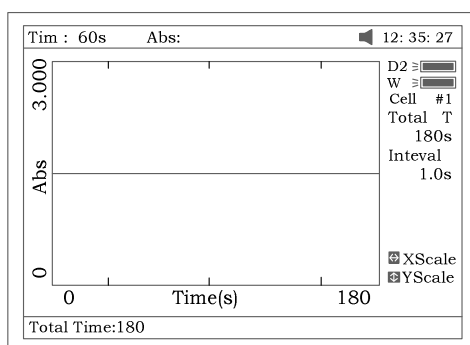

Fig 54
1. Press **【F1】** to set “Total Time”, ”Delay Time”, ”Time interval”, and input the value by pressing the numeric keypad (Fig 54).